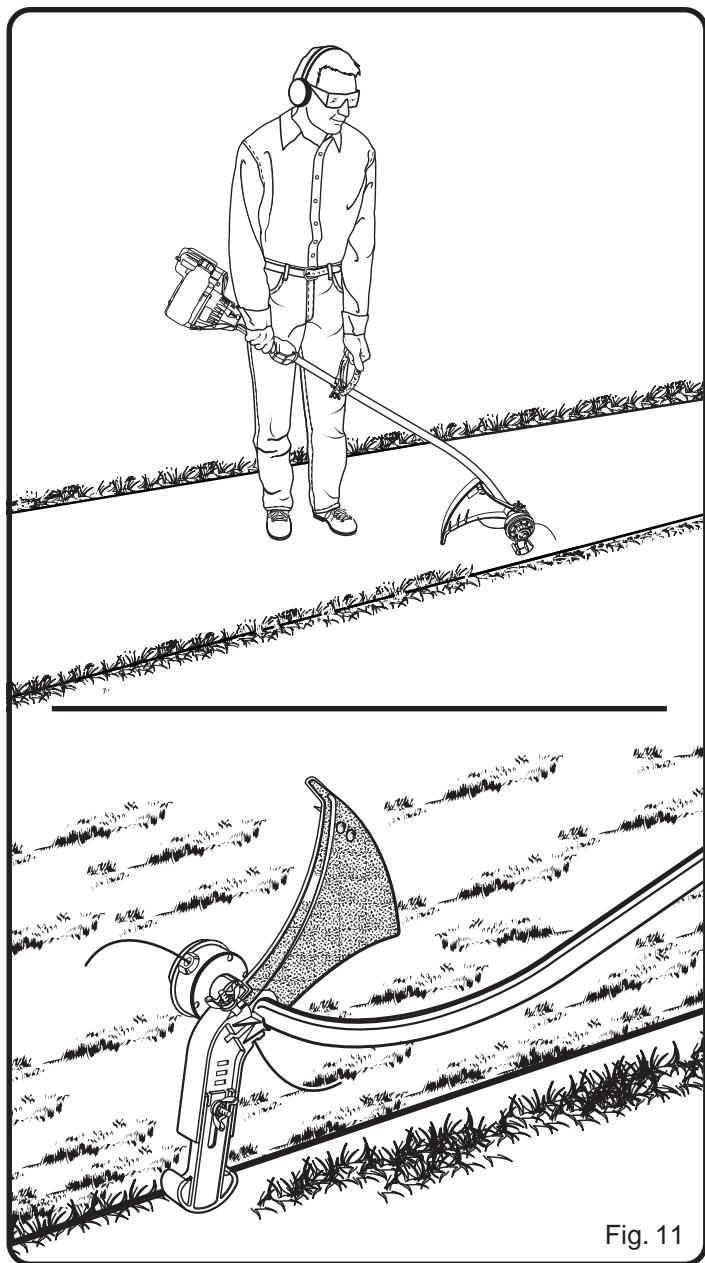

Fig. 11
- Be extremely careful when tilting the trimmer to use as an edger. The muffler, and the exhaust from the muffler get very hot during operation. Keep the muffler away from all body parts. *See Figure 11.*